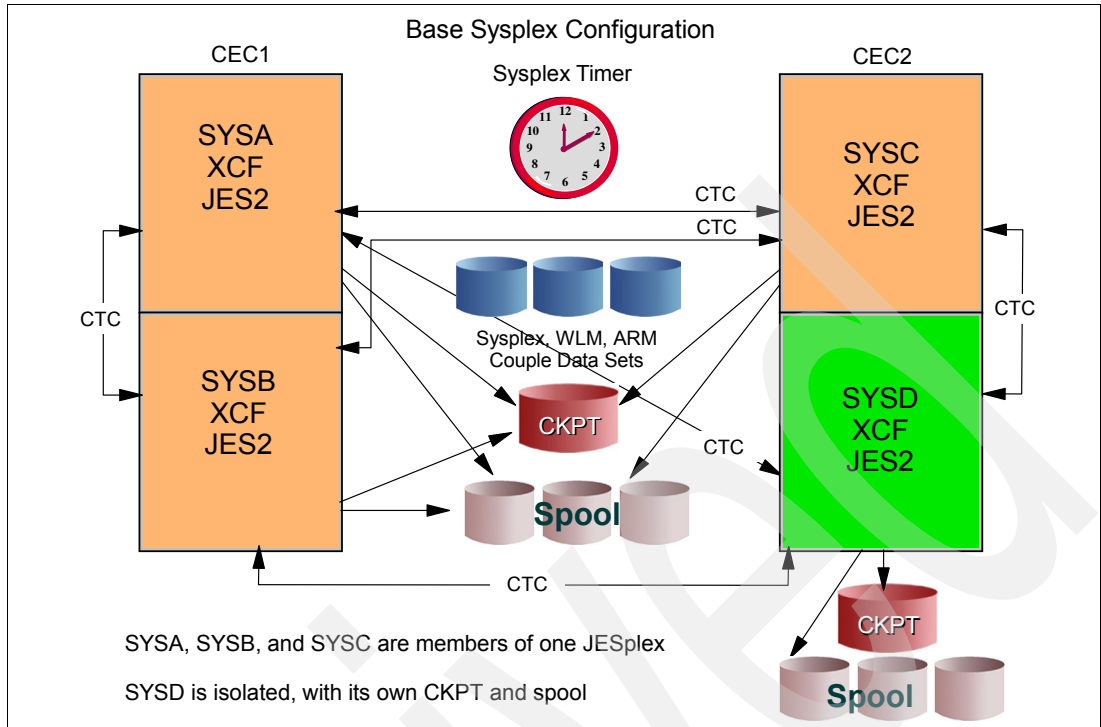
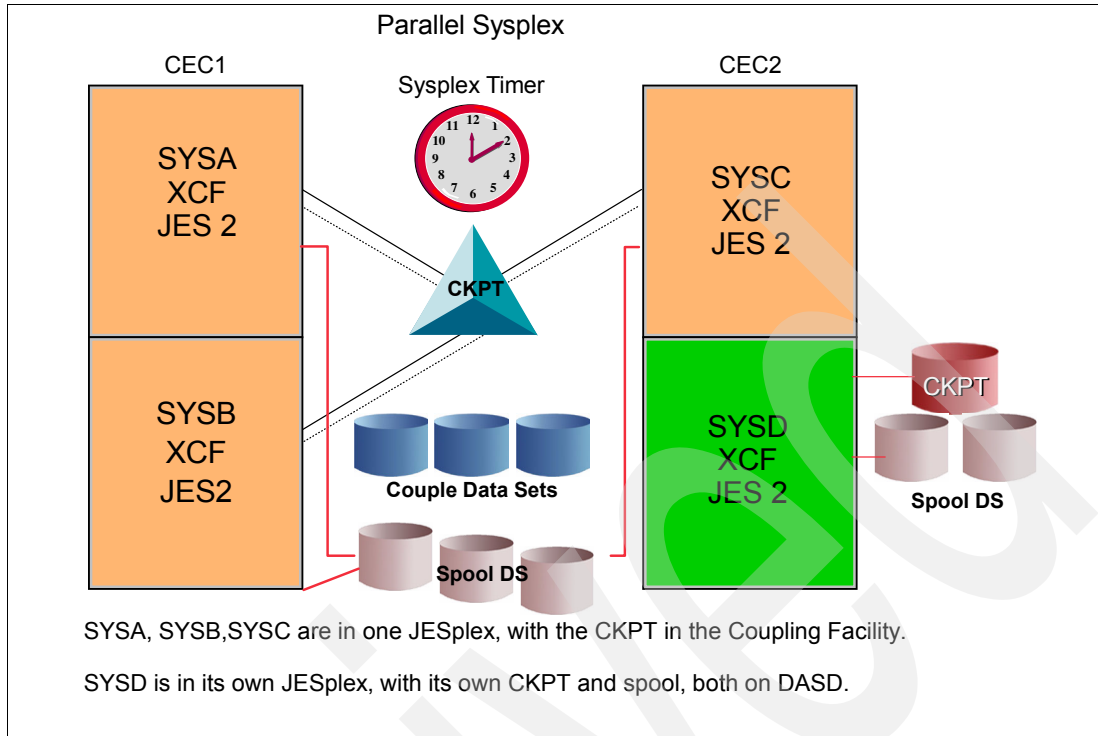

Figure 7-1 JES2 MAS in a base sysplex configuration
Figure 7-2 JES2 MAS in a Parallel Sysplex configuration
In a base sysplex, the primary and secondary checkpoint data sets always reside on DASD. An example of base sysplex is shown in Figure 7-1 on page 95, where systems A, B, and C are sharing the checkpoint and spool volumes. System D, which is in the same sysplex, is not in the MAS and has its own checkpoint and spool volumes.
Figure 7-2 on page 96 shows another possible target configuration, this time it is a Parallel Sysplex rather than a base sysplex. Once again only three of the systems (SYSA, SYSB, and SYSC) are sharing the spool and JES2 checkpoint data sets. In fact, in this case, the JES2 checkpoints for those three systems are held in the CF. Once again, SYSD is a single JES2 member, not sharing its checkpoint or spool with any other systems.
A single member MAS, like SYSD in Figure 7-1 on page 95 and Figure 7-2, can become a multi-member MAS at any time without the need to restart the running system. This has been true since MVS/SP™ 1.3.6. In earlier releases, there were parameters that indicated whether or not JES2 was operating as a MAS or a single system. A cold start was needed to go from non-MAS to MAS operations in those earlier releases.
- ▶ You can keep the incoming system in its own MAS configuration, like SYSD in Figure 7-2 on page 96. At some later point you may wish to make the incoming system part of the target sysplex JESplex.